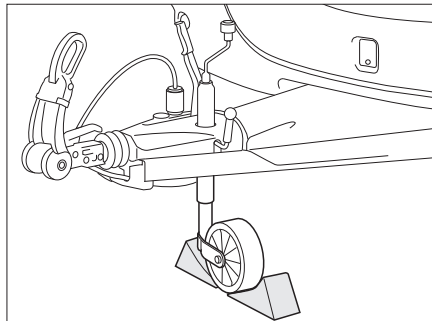

Fig. 186 Securing support wheel
- Place the support wheel diagonal to the direction of travel and secure with suitable tools (Bild 186).